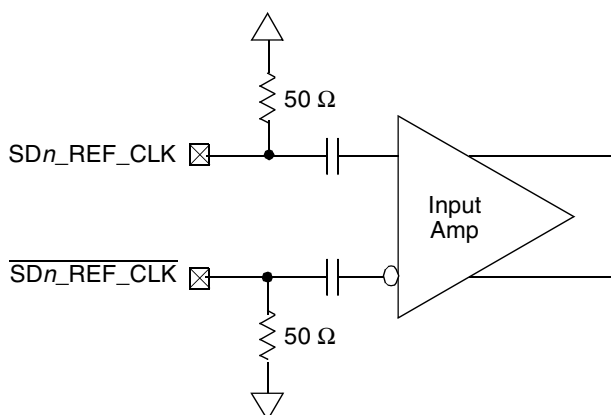

Figure 52. Receiver of SerDes Reference Clocks
Figure 52 shows a receiver reference diagram of the SerDes reference clocks.
- The $\overline{\text{SDn_REF_CLK}}$ and SDn_REF_CLK are internally AC-coupled differential inputs as shown in Figure 52. Each differential clock input ($\overline{\text{SDn_REF_CLK}}$ or SDn_REF_CLK) has a 50 Ω termination to SGND_SRDSn (xcovss) followed by on-chip AC-coupling.